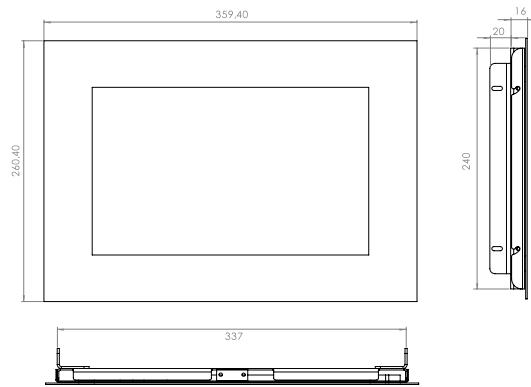

Fig. 15
- Abb. 15: Dimensions recess for TWE for Samsung Galaxy Pro 12.2 (B x H x T): 337 x 240 x 16 mm